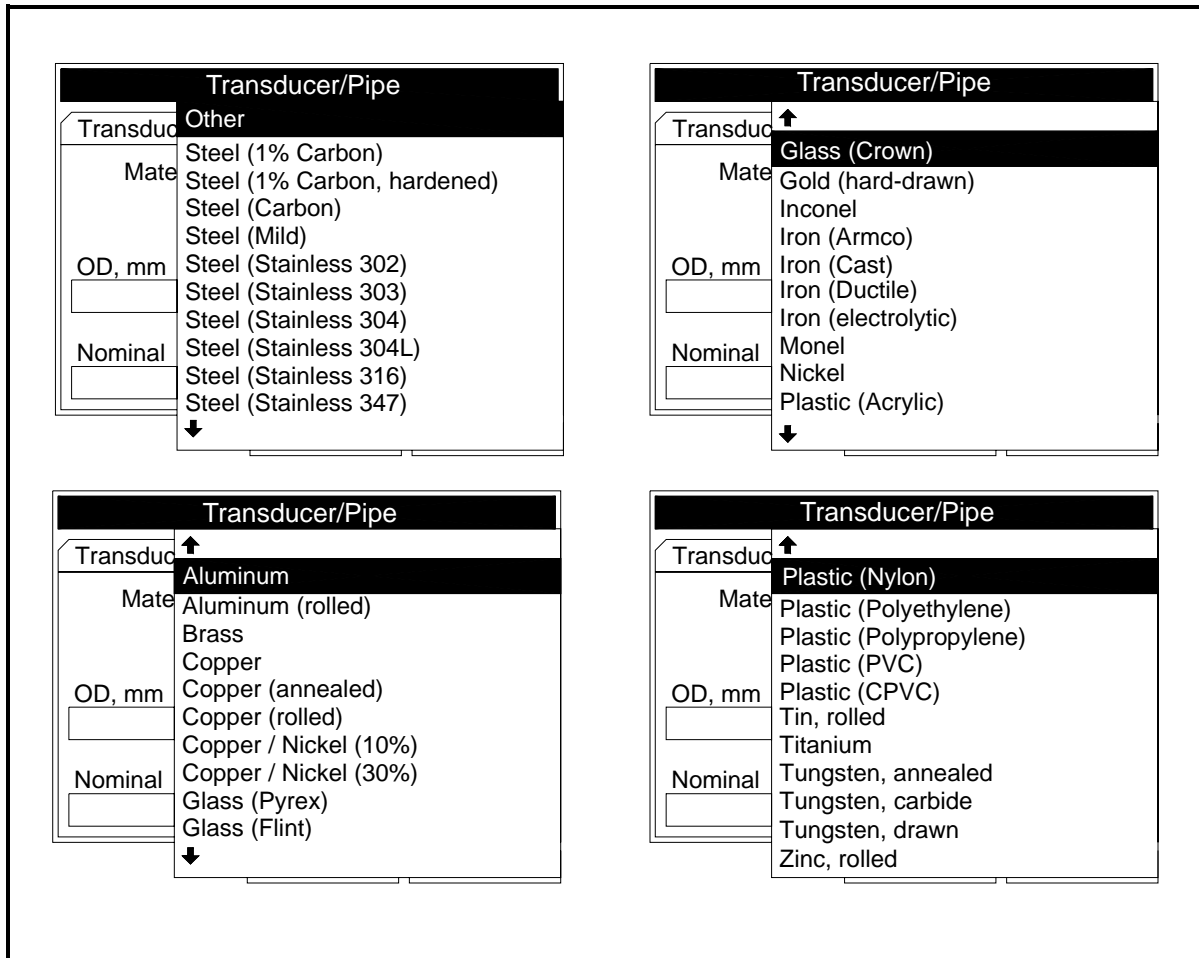

Figure 3-10: Pipe Material Options
- b. A drop-down list of materials opens as shown in Figure 3-10 below. Press the [▼] or [▲] keys to scroll to the appropriate material, or scroll to “Other” for a material not on the list. Press the [▶] key to scroll down by a page, or the [◀] key to scroll up by a page.